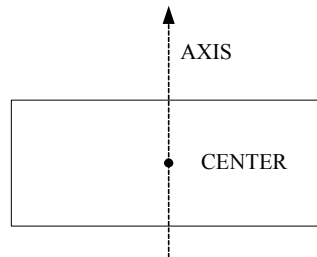

Figure 2: Front view of the receiving horn antenna
3. Rotate the receiving antenna about its center (Figure 2) from  $-90$  degrees to  $+90$  degrees in steps of 10 degrees. In each setting, read the received power from the meter or the oscilloscope. (*Note: The oscilloscope may provide a finer resolution*).
4. Readjust the receiving antenna for maximum reception and repeat step (3) using the polarizing screen.
1. Connect the circuit shown in Figure (1).
3. Rotate the receiving antenna about its axis (Figure 2) from  $-90$  degrees to  $+90$  degrees in steps of 10 degrees. In each setting, read the received power from the meter or the oscilloscope. (*Note: The oscilloscope may provide a finer resolution.*)